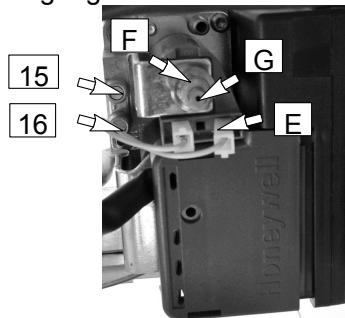

Figure 15.5
- Open the gas valve inlet pressure test point (16 in Fig. 15.5) at the valve input, connect a suitable pressure gauge and check the gas pressure of the supply network.
- Open the gas valve outlet pressure test point (15 in Fig. 15.5) and connect the gauge.
- Turn the boiler off and disconnect one of the two connectors (E in Fig. 15.5).
- Start the boiler and rotate the minimum gas pressure adjustment (G in Fig. 15.5) until you obtain the required pressure (by rotating clockwise the pressure increases).
- Rotate the maximum gas pressure adjustment (F in Fig. 15.5) until you obtain the required pressure (by rotating clockwise the pressure increases).
- Open the gas valve outlet pressure test point 15 (figure 15.5) and connect the gauge.
- Close the gas valve outlet pressure test point 15 (figure 15.5).